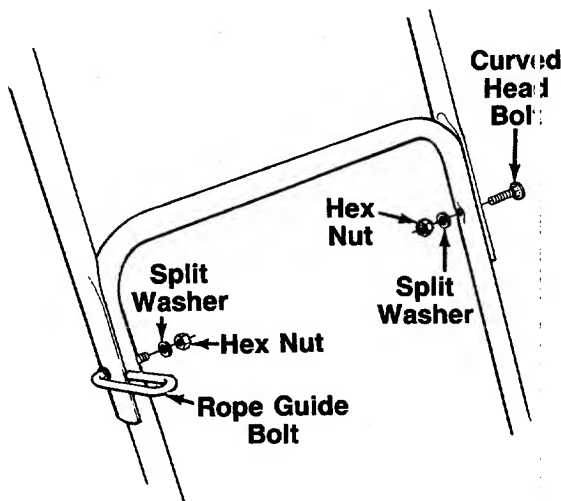

FIGURE 2.
2. Secure the left hand side of upper handle using the curved head bolt, split washer and hex nut as shown in figure 2.